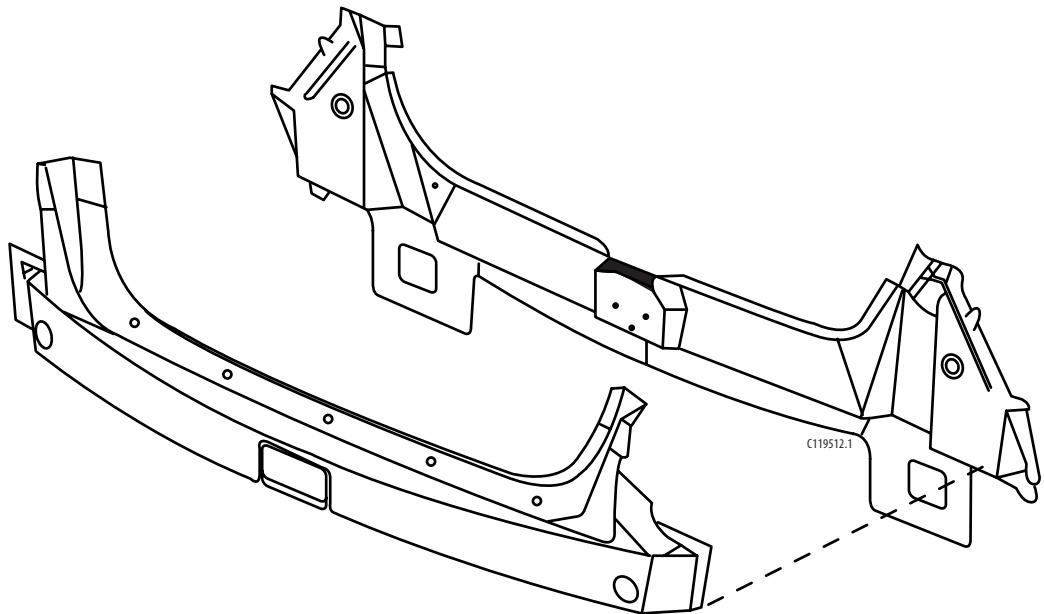

Figure 12-1:
The rear end panel is supplied as a complete assembly. The tail lamp pockets are attached to the quarter panels (figure 12-1).
1. Position the service panel, check the fit, and plug weld accordingly (figure 12-1).